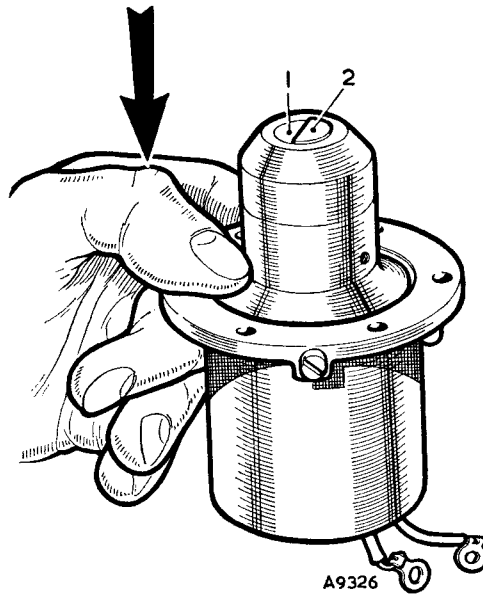

Fig. 6. Checking the position of the coil in its housing
- 4. Check the position of the coil in its housing with the depth gauge specified for the type of coil (see Fig. 6).